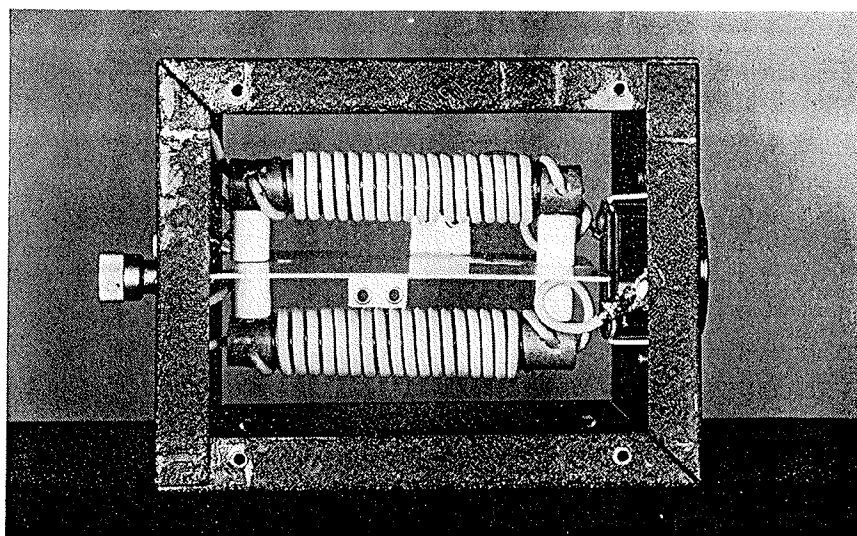

Figure D-2. Power Line Filter.
4. If interference is still observed, insert an a-c power line filter in the Teleset a-c line cord. A suitable filter is shown in Figure D-2. It is available from your Du Mont distributor. The part number is 21 007 651. The filter should be installed as close as possible to the point where the a-c line cord enters the Teleset chassis.